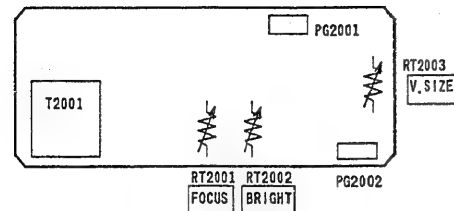

Fig. 2-24 Electronic Viewfinder (EMQ) Circuit Board (SIDE-A)
(2) EVF Vertical Size Adjustment (Fig. 2-24)
(3) EVF Brightness Adjustment (Fig. 2-24)
(4) EVF Focus Adjustment (Fig. 2-24)